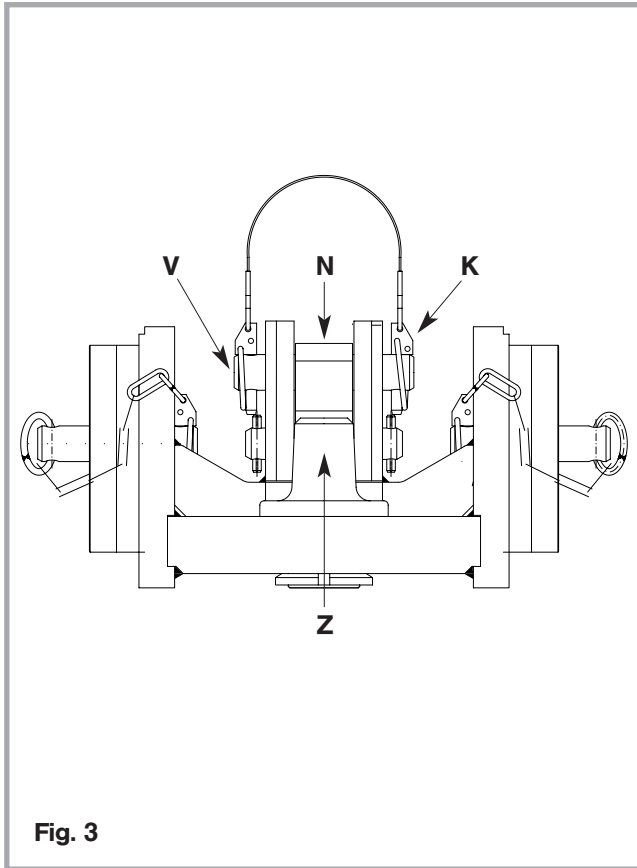

Fig. 3
- Remove the linchpins (**K**) on the left and right (see Fig. 3).
- Slide out the locking bolt (**V**) (see Fig. 3).